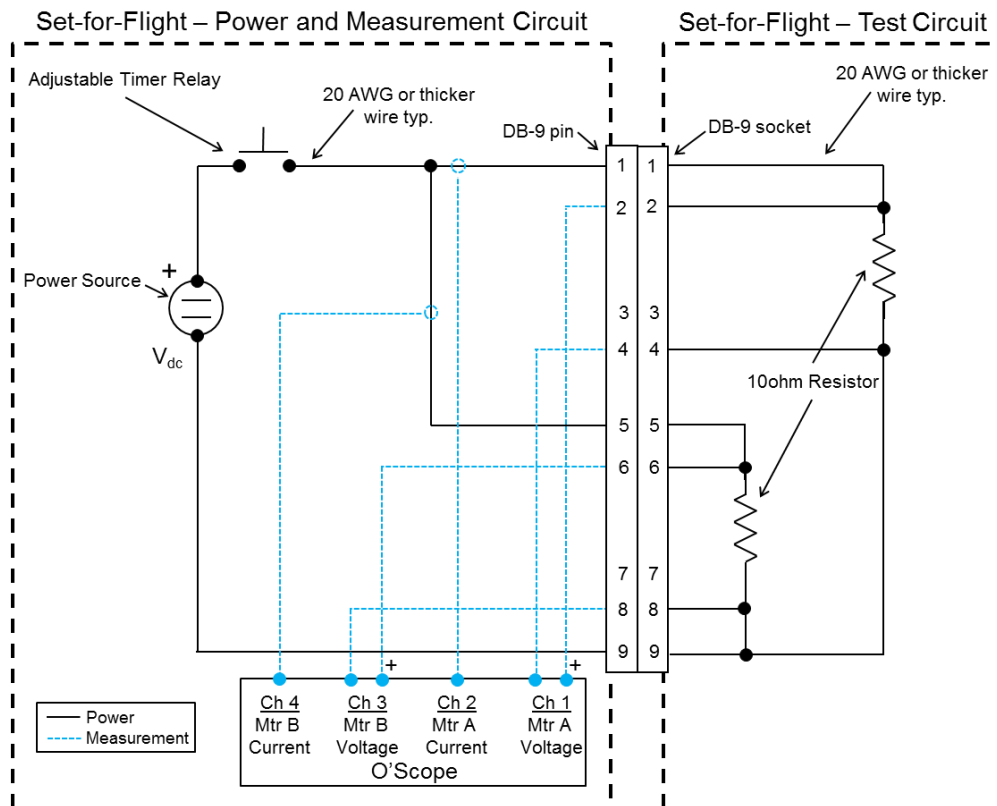

Figure 24: Set-for-Flight Test Circuit
8.1.2	Set up the 'Set-for-Flight – Power and Measurement Circuit' per Figure 24. Do not connect the Lightband.
8.1.7	Set up the 'Set-for-Flight – Test Circuit' per Figure 24. This uses a 10 ohm resistor (≥30 W) to simulate each Lightband Motor.
8.1.8	Connect the 'Set-for-Flight – Test Circuit' to the 'Set-for-Flight – Power and Measurement Circuit' per Figure 24. When ready, apply power and verify the following: 1) The entire voltage and current profiles for both "motors" are measured. 2) Timer relay applies power for specified time. 3) Current for each "motor" is about 1/10 of applied voltage. ($I=V/R$). 4) Data properly saves (transferable data set; e.g. viewable on computer, picture in focus, etc.). If any parameters are not met, make the required changes and run the test circuit again. The test circuit may be run as many times as necessary to ensure the power and measurement circuit is performing as required. Upon completion of this step the 'Set-for-Flight – Power and Measurement Circuit' shall not be changed.